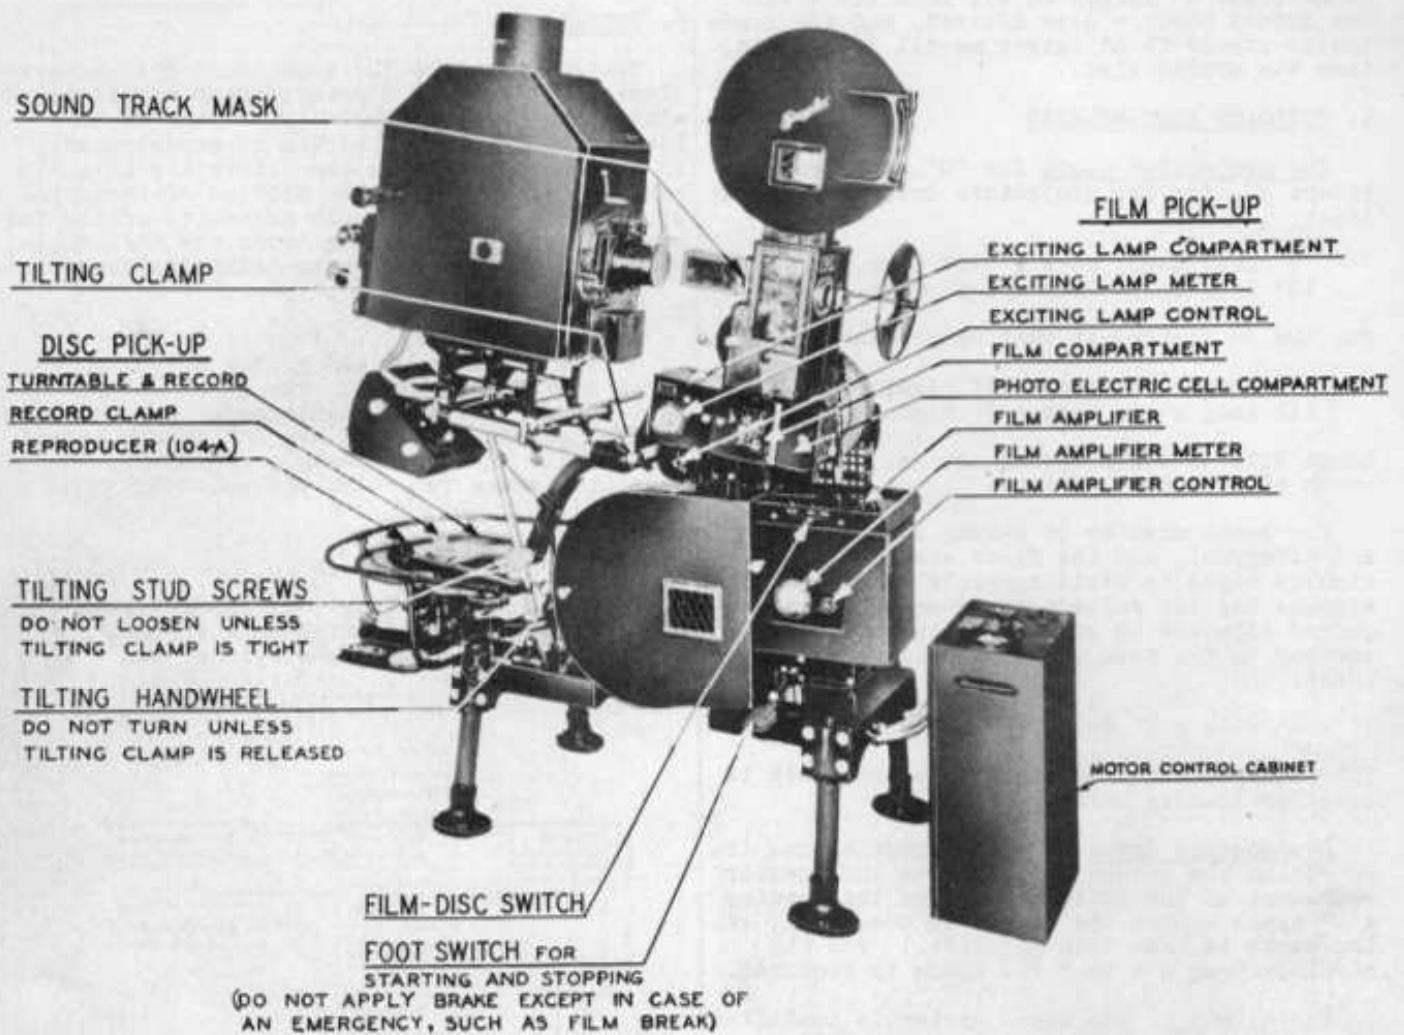

FIG. 2
2.1 The W.F. Reproducer Set is shown in Figs. 2 and 3. It consists essentially of a black finished adjustable iron framework (1 type Base and 703 type Bracket), on which are mounted: